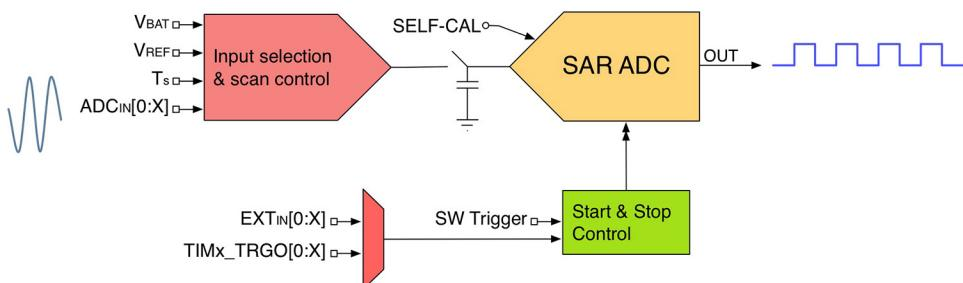
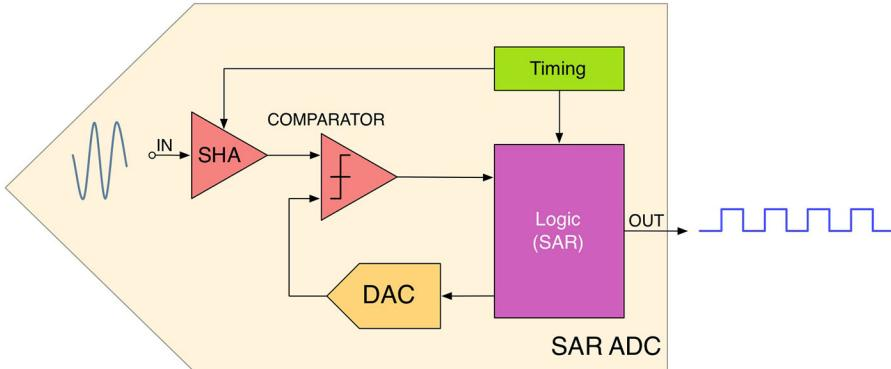

Figure 1: The simplified structure of an ADC
Figure 2: The internal structure of a SAR ADC
Figure 1 schematizes the structure of the ADC². An *input selection and scan control* unit performs
²Figure 1 is a really simplified representation of the ADC. Since the ADC implementation can differ a lot among the several STM32 families, here we are going to consider a simplified view that clearly describes how the ADC unit is designed.
Figure 1 also shows another important part of the ADC: the *start and stop control* unit. Its role is to control the A/D conversion process, and it can be triggered by software or by a variable number of input sources. Moreover, it is internally connected to the TRGO line of some timers so that time-driven conversions can be automatically performed in DMA mode. We will analyze this important mode of the ADC peripheral later.
Figure 2 shows the main blocks forming the SAR ADC unit shown in **Figure 1**. The input signal goes through the SHA unit. As you can see in **Figure 1**, a switch and a capacitor are in series with the ADC input. That part represents the *Sample-and-Hold* (SHA) unit shown in **Figure 2**, which is a feature available in all ADCs. This unit plays the important role to keep the input signal constant during the conversion cycle. Thanks to an internal timing unit, which is regulated by a configurable clock as we will see later, the SAR constantly connects/disconnects the input source by closing/opening the “switch” in **Figure 1**. To keep the voltage level of the input constant, the SHA is implemented with a network of capacitors: this ensure that source signal is kept at a certain level during the A/D conversion, which is a procedure that requires a given amount of time, depending on the conversion frequency chosen.
The charging of the internal capacitor network (that we indicate with C_{ADC}) is controlled by the switch in **Figure 1** having a resistance equal to R_{ADC} .
- `ClockPrescaler`: defines the speed of the clock (ADCCLK) for the analog circuitry part of ADC. In the previous paragraph we have seen that the ADC has an internal timing unit that controls the switching frequency of the input switch (see **Figure 2**). The ADCCLK establishes the speed of this timing unit and it impacts on the number of samples per seconds, because it defines the amount of time used by each conversion cycle. This clock is generated from